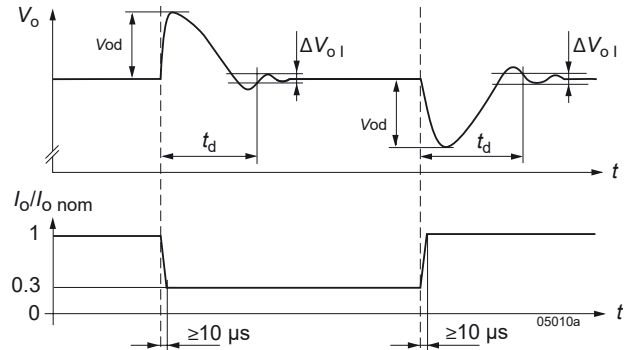

Fig. 5
- Condition for specified output. With multiple-output models, other output(s) loaded with constant current  $I_{o, \text{nom}}$ . See fig. 5 *Dynamic load regulation*.
- Condition for non-specified output, individually tested, other output(s) loaded with constant current  $I_{o, \text{nom}}$ . See fig. 5 *Dynamic load regulation*.